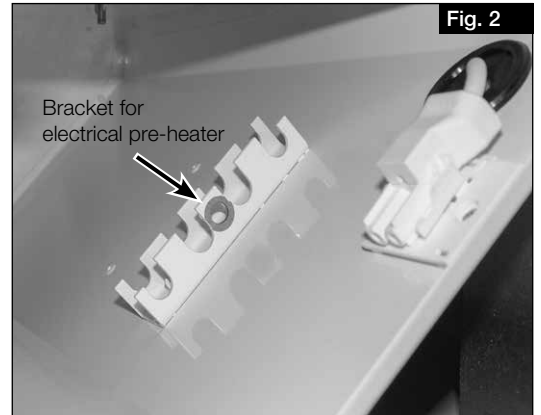

Fig. 2
4. Screw the electrical pre-heater to the provided bracket with the provided screw and lock washer (see Fig. 2 and Fig. 3).